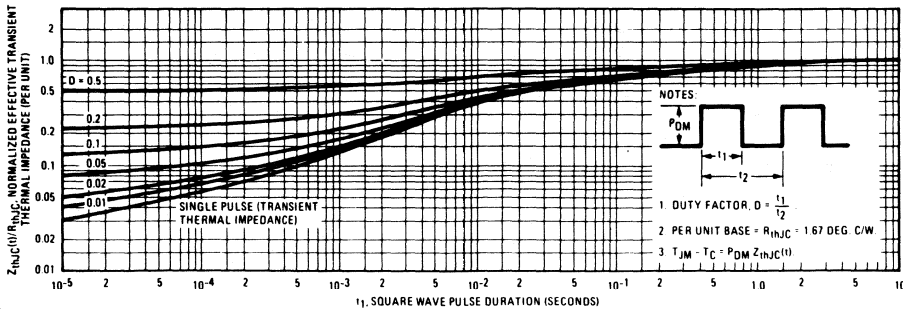

Fig. 5 - Maximum Effective Transient Thermal Impedance, Junction-to-Case Vs. Pulse Duration
3. Repetitive Rating: Pulse width limited by max. junction temperature. See Transient Thermal Impedance Curve (Figure 5)